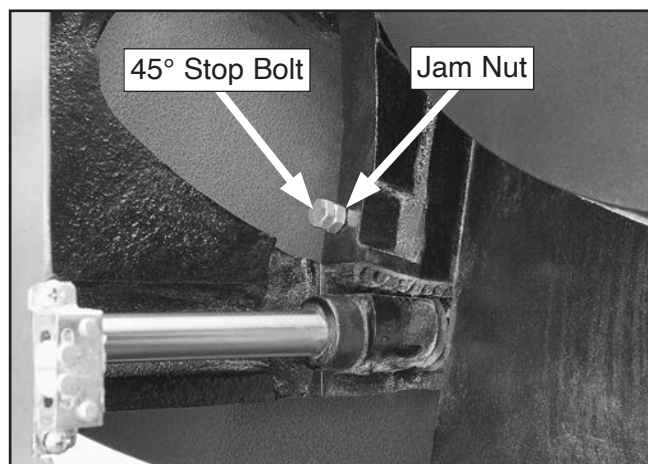

Figure 104. 45° stop bolt and jam nut.
6. Loosen jam nut on 45° stop bolt (see **Figure 104**) then adjust stop bolt in or out according to how far off blade was from 45°.